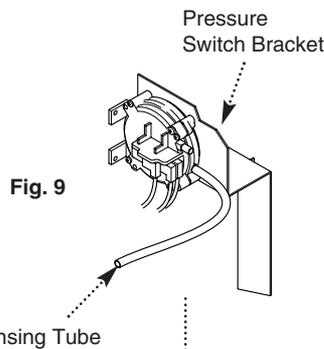

Fig. 9
23. Fit the new pressure switch to the new pressure switch bracket (Fig. 9).